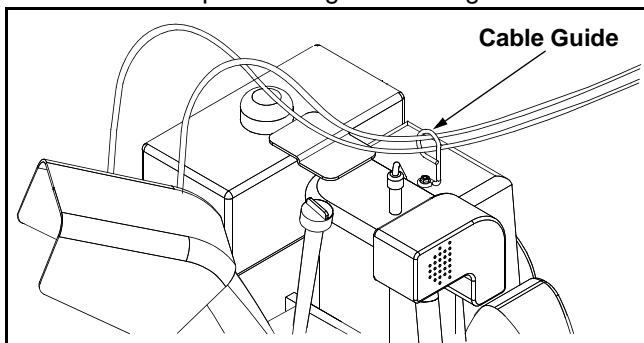

Figure 5
- If not already attached, slip the cables that run from the handle panel to the chute into the cable guide located on top of the engine. See Figure 5.